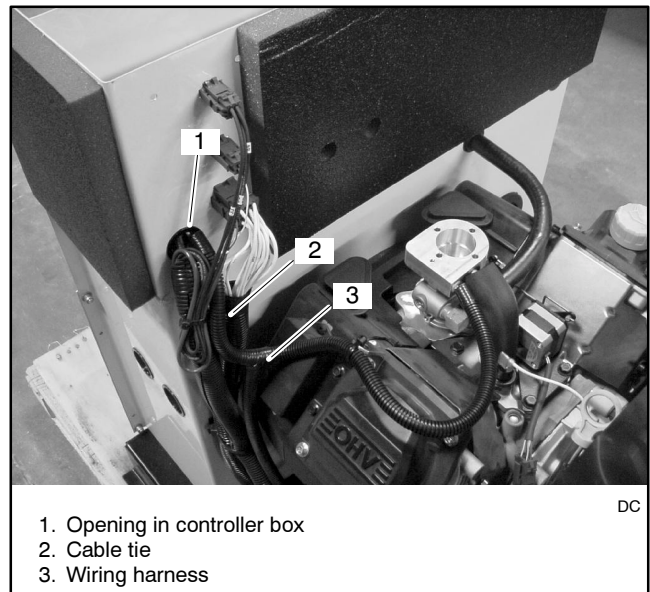

Figure 16 Routing the Wiring Harness
1. Route the heater wiring harness toward the back of the engine. Bring the thermostat and diode leads through the controller box opening in the lower corner as shown in Figure 16.